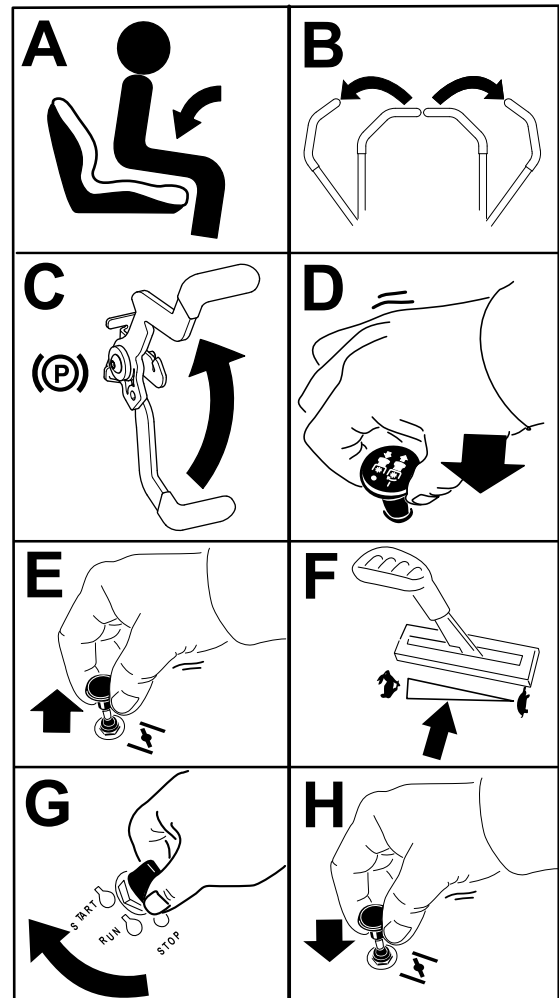

Figure 20
1. Disengage the blades by moving the blade-control switch to the OFF position (Figure 20).